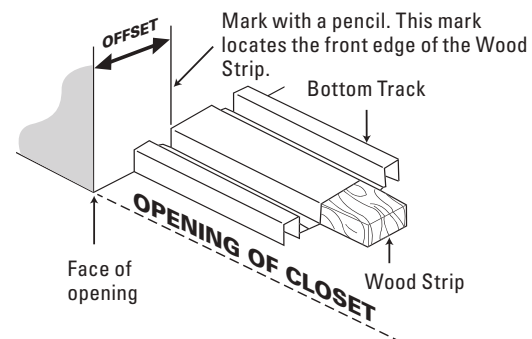

Figure 5
D. Use the Wood Strip Offset Chart Table 3 to find your model's correct offset measurement. Using the offset from the chart, measure from the front edge of the opening and make a small pencil mark on the wall. Do this on both walls, i.e., the right and left walls (See **Figure 5**).